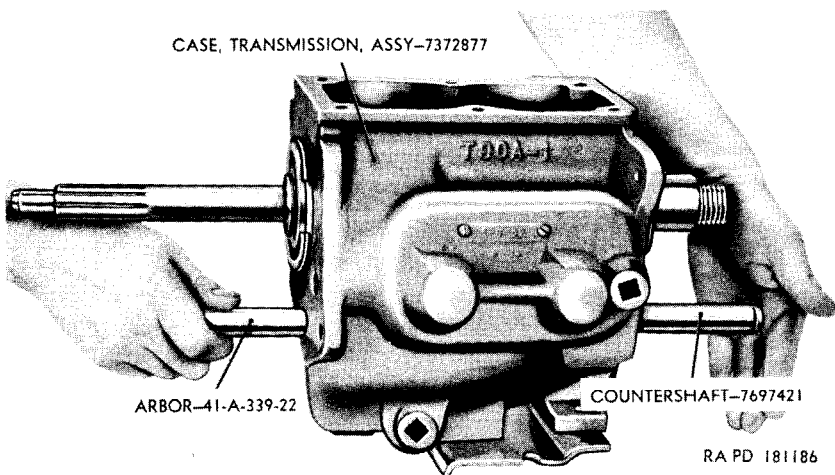
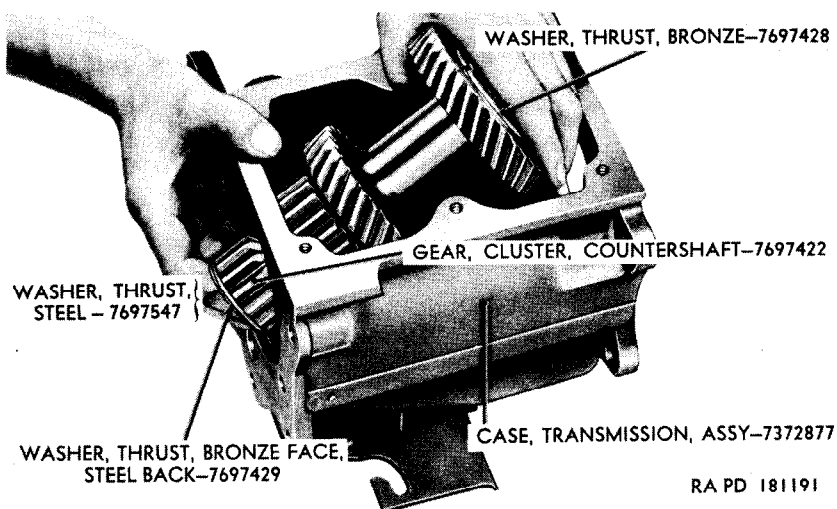

Figure 50. Removing transmission countershaft.
Figure 55. Removing transmission countershaft cluster gear.
a. *Remove Countershaft Cluster Gear* (fig. 55). Lift the countershaft cluster gear out of the transmission case. Keep arbor (fig. 50) in position so that it will not slip out and permit bearing rollers to slide out. Remove the three thrust washers from the cluster gear.
b. *Remove Countershaft Cluster Gear Bearing Roller Spacer* (fig. 45). Tip countershaft cluster gear (H) on end and remove the arbor 41-A-339-22 (fig. 50), 6 bearing roller spacer washers (L, N, Q, S, U, and W), 88 bearing rollers (M, P, T, and V), and one bearing roller spacer (R).